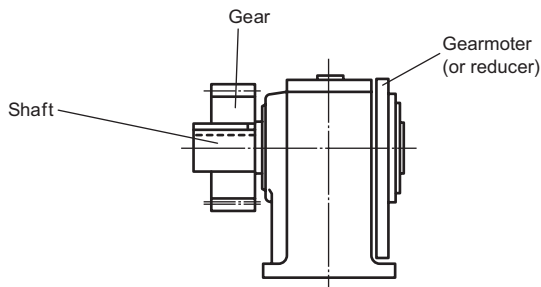
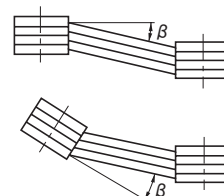

Fig. 5
Fig. 6
(2) When Using a Chain Sprocket and Gear
- Install sprocket and gears so that their point of load application will be closer to the gearmotor or reducer side with respect to the length of the shaft. (Fig. 5)
(3) When Using a V-belt
- The parallelism and eccentricity (β) between two pulleys should be within 20 minutes. (Fig. 6)